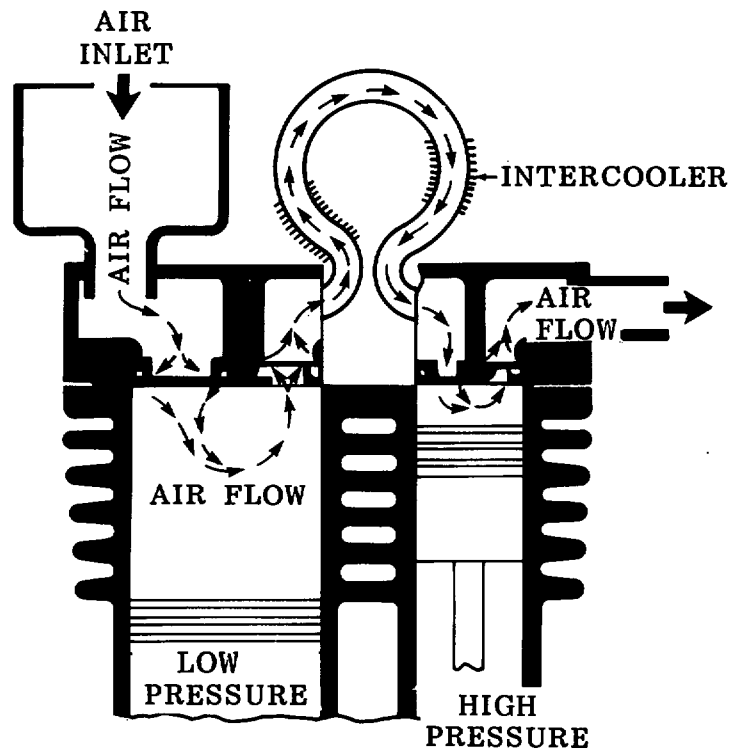

Figure 1-2. Air Compressor, Operation.
**Section III. PRINCIPLES OF OPERATION****1-13. PRINCIPLES OF OPERATION.***a. Compressor.* (Refer to Figure 1-2).
- (1) Filtered air is drawn into the first stage (low-pressure) cylinders at atmospheric pressure as the pistons move down.
- (2) The air is compressed when the pistons are moved upwards. When the air pressure inside the cylinders reaches a pre-determined value, the valve spring pressure is overcome and the air is forced out the discharge valve to the intercooler.
- (3) As the air flows through the intercooler, much of the heat of compression is dissipated.
- (4) The second stage (high-pressure) is similar except that the air enters from the intercooler and is recompressed to a higher pressure.
- (5) The air then flows to the air receiver tank.